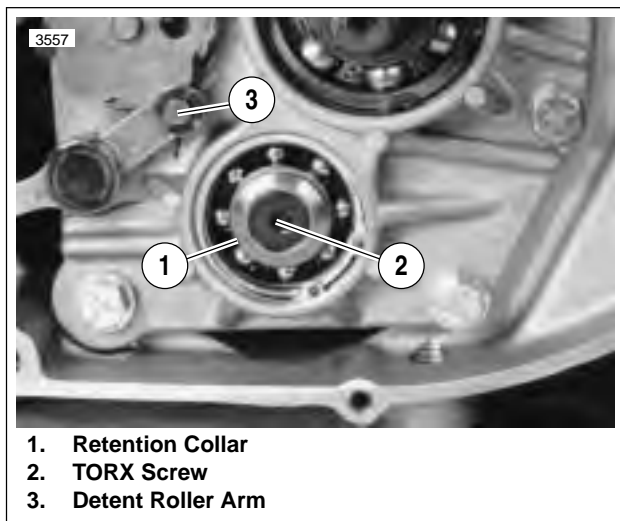

Figure 6-28. Countershaft Retainer
13. See Figure 6-28. Lock transmission in gear. Remove countershaft TORX screw (2) and retention collar (1).
See Figure 6-28. Install detent arm roller (3) between countershaft bearing and detent plate.